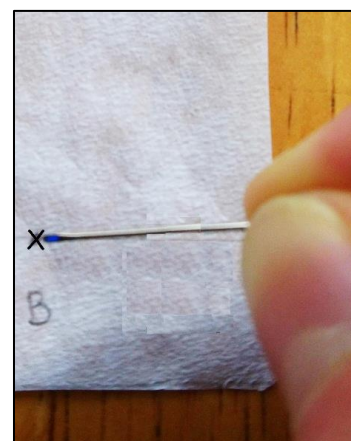

Figure 7. Spotting analyte on a TLC plate.
- g) Label your “X” marks on the baseline with a descriptive letter underneath it, e.g. “B” for “blue” (Figure 7).
- h) To deposit an analyte on a TLC plate in the lab we would use a small capillary tube. A good substitute available at home is a needle with a small eye (**CAUTION: Please be extra careful when working with a needle!**). Hold the needle on the sharp end side **~1 cm above the sharp end so that you do not stab yourself**. Submerge the needle eye into a solution and slowly make a small spot with it by touching the “X” mark on the baseline with the needle eye approaching mostly horizontally (a $\sim 20^\circ$ angle works best) (Figure 7).
- Deposit your red and pink dye (Figure 7) on the correct cross and attach the TLC sheet to a cotton bud stick.